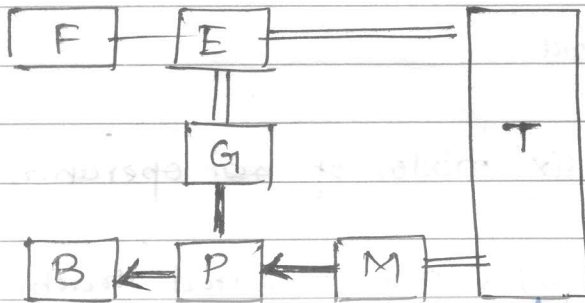

fig 4d Mode 4
- Mode 4 : During braking or deceleration (fig 4d), the EM acts a generator to charge the battery.